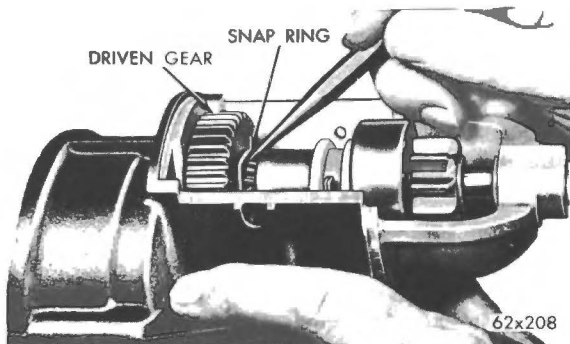

Fig. 14 Removing Driven Gear Snap Ring
(19) Release the snapping that positions the driven gear on the pinion shaft. (See Fig. 14).